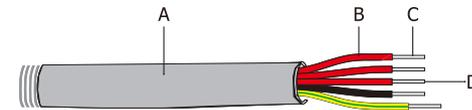

**Figure 4.3-2 Ac breaker connection**
1. On the AC side, the individual breaker should be connected between inverter and grid as well as loads. See Figure 4.3-2.